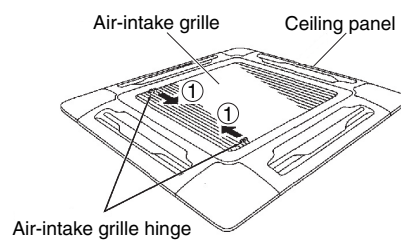

Fig. 3-16
- b) Slide the air-intake grille catches in the direction shown by the arrows ① to open the grille. (Fig. 3-16)